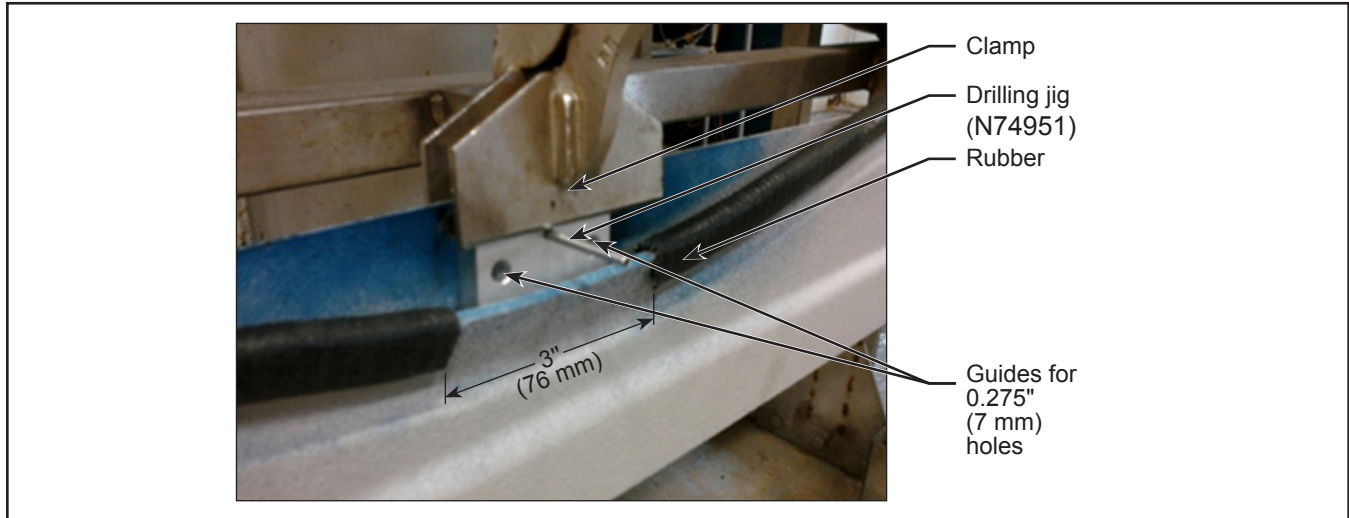

Figure 6 - Drilling Jig
- 1.14. Place the drilling jig (N74951) using the hole drilled at step 1.13. Horizontally level the jig and secure it in place with a clamp. See Figure 6.
- 1.15. Using the drilling jig as a guide, drill two 0.275" (7 mm) dia holes. See Figure 6.
- 1.16. Remove 3" (76 mm) of rubber below the drilling jig. See Figure 6.